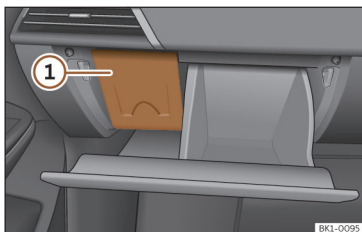

Fig. 180 Right-hand drive vehicles: fuse box cover under the passenger side dash panel.
- Remove the cover from above >>> **Fig. 180 ①**.